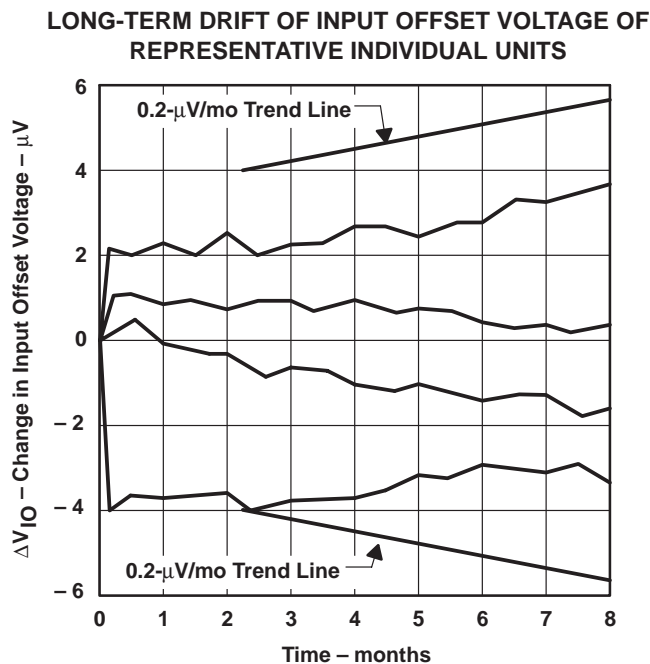

Figure 3
4. Long-term drift of input offset voltage refers to the average trend line of offset voltage versus time over extended periods after the first 30 days of operation. Excluding the initial hour of operation, changes in V_{IO} during the first 30 days are typically $2.5 \mu\text{V}$ (see Figure 3).